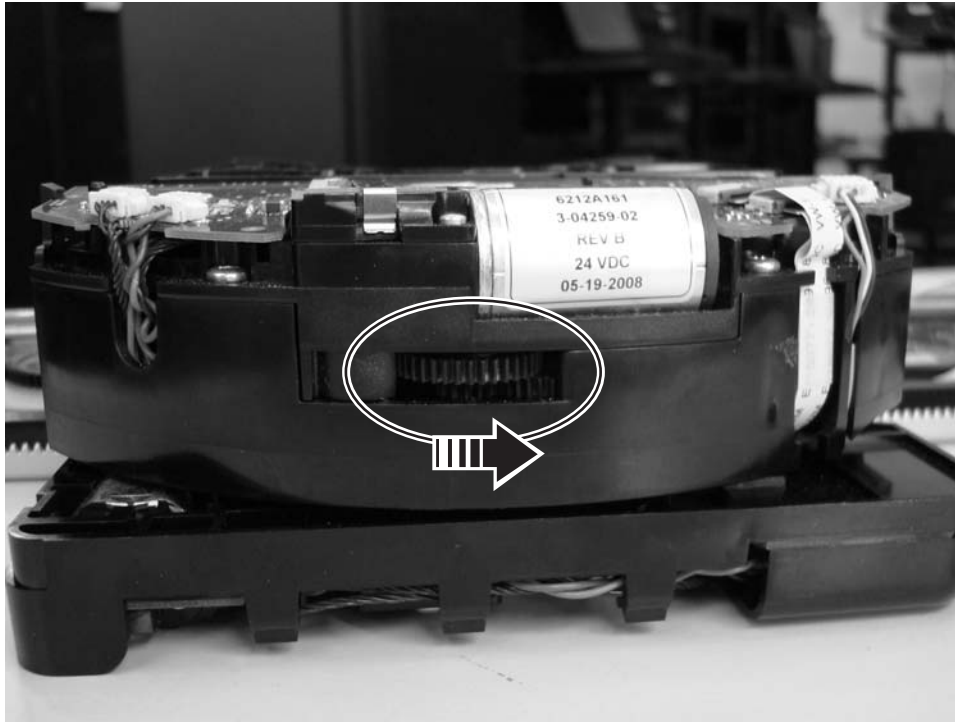

Figure 10-11. Access the M2 picker thumbwheel
- In the M2 robot assembly, access the thumbwheel on the front of the picker as shown in Figure 10-11 on page 10-20.
2. Rotate the gear (**1** in Figure 10-10 on page 10-19 or the arrow in Figure 10-11) with your thumb or finger, in the direction that is shown by the arrow.